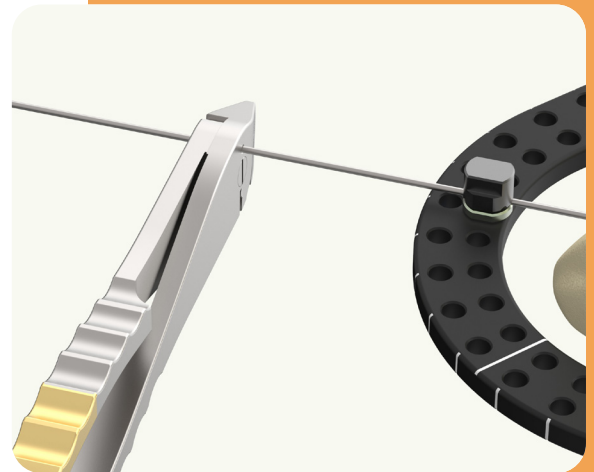

Fig. 11 - Trim Excess Wire
- 11 Using the Wire Cutter/Plier, cut the end of the Wire leaving enough length to allow for additional tensioning on at least one side if needed (Fig. 11).
Trim excess length of Wires and/or Half Pins using the Wire Cutter/Plier or Rod Cutter (Fig. 11).